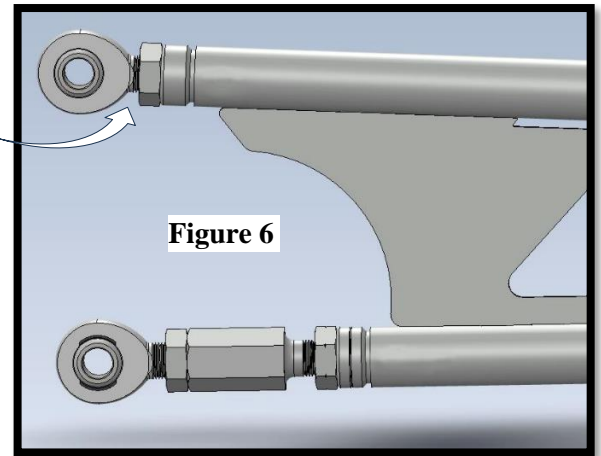

Figure 6
5. Thread one 3/4" jam nut (#5) onto one 3/4" male rod end (#4) leaving 1/8" of threads between the jam nut and rod end before threading the rod end into the upper torque arm connection. (Figure 6)
6. Thread one 3/4" left-hand threaded jam nut onto the LH threaded male threads of the linkage adjuster (#6) before threading the adjuster into the left-hand threaded lower rear connection of the torque arm. (Figure 6)